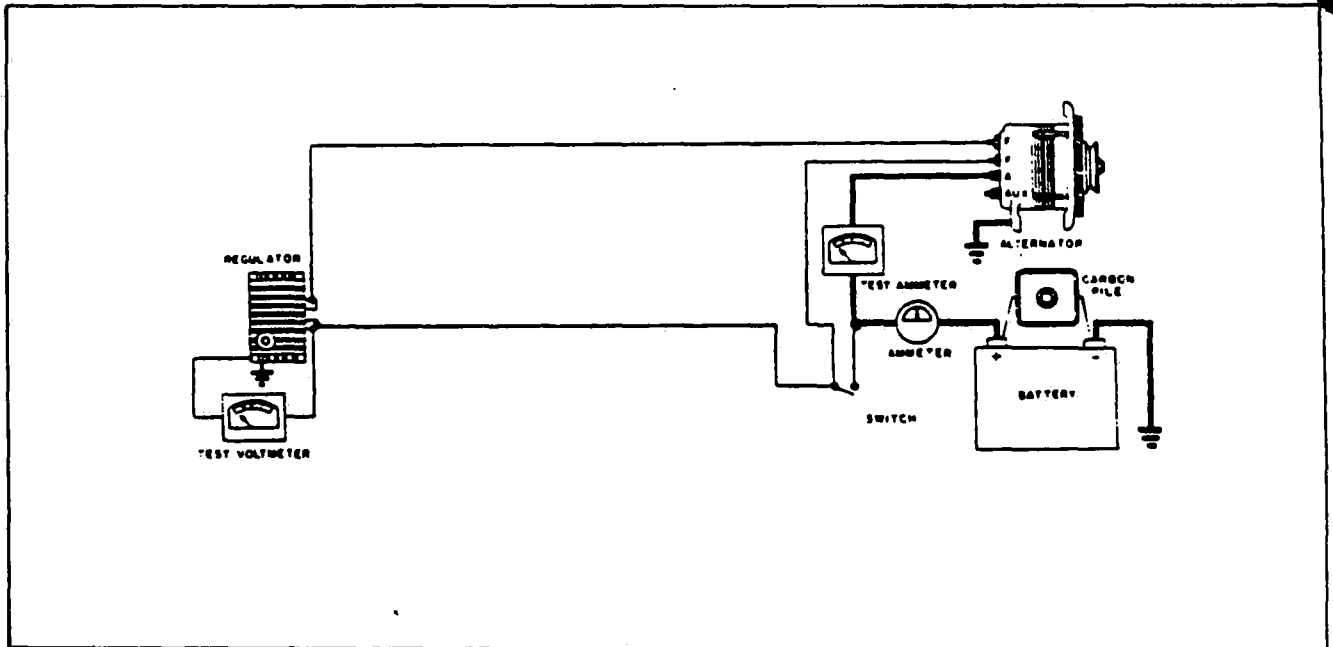

Figure 11-36. Testing Regulator (PRESTOLITE)
- a. The procedure for testing the regulator, whether on the airplane or on the test bench remains the same. Connect test meters as shown in Figure 11-36.
- d. Connect the voltmeter and the ammeter as shown in Figure 11-36. Start the engine and adjust the speed to approximately 920 to 1250 RPM to obtain 3,000 to 4,000 alternator RPM. Turn on accessories as needed to establish 10 to 15-ampere electrical load, or use a carbon-pile across the battery to obtain this charge rate.